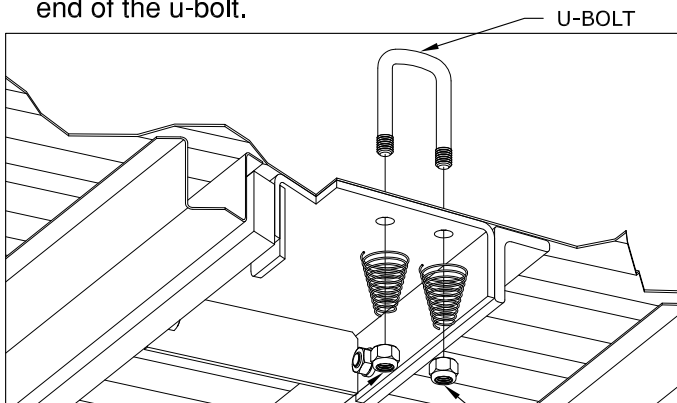

FIGURE F3: Cut away view from under the bed.
3. **Add springs.** Place a conical spring over each leg of the u-bolts and secure with a  $\frac{1}{2}$ " lock nut, see figure F3. Tighten the lock nut until the nut is flush with the end of the u-bolt.